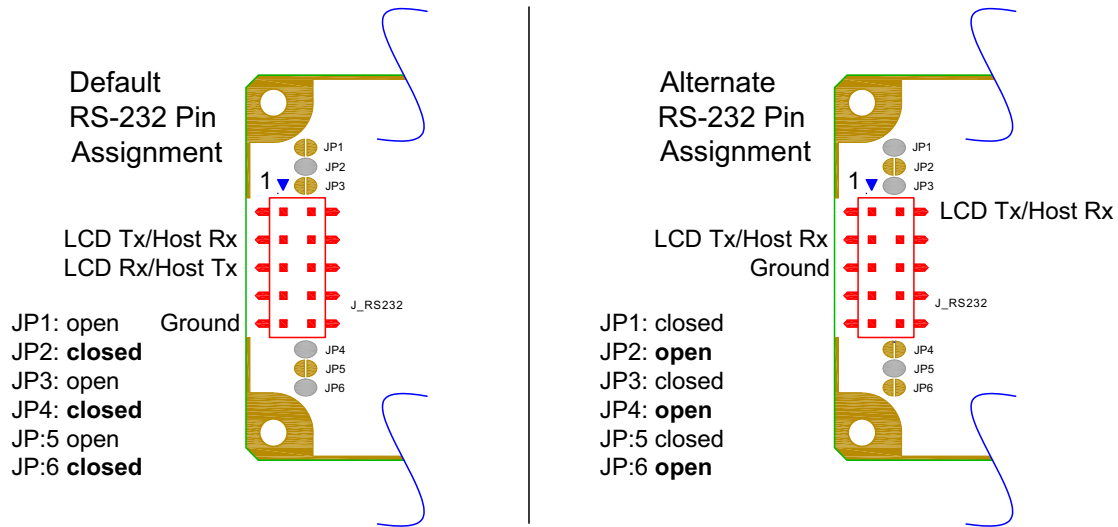

Figure 15. J_RS232 Default and Alternate Pin Assignments
3. If the “Default RS232 Pin Assignments” (see Figure 15. on Pg. 31) are selected, the five connections needed to operate the display module are all on a single column of pins on J_RS232. You can connect a single 0.1-inch spacing 5-conductor cable to connect between the CFA533-TMI-KS and your host.
JP2, JP4, and JP6 are closed at the factory, selecting the "Default RS232 Pin Assignments" (see Figure 15. on Pg. 31). This connection allows a low-cost ribbon cable (Crystalfontz WR-232-Y08) to connect the CFA533-TMI-KS to a host's DB-9 COM port.